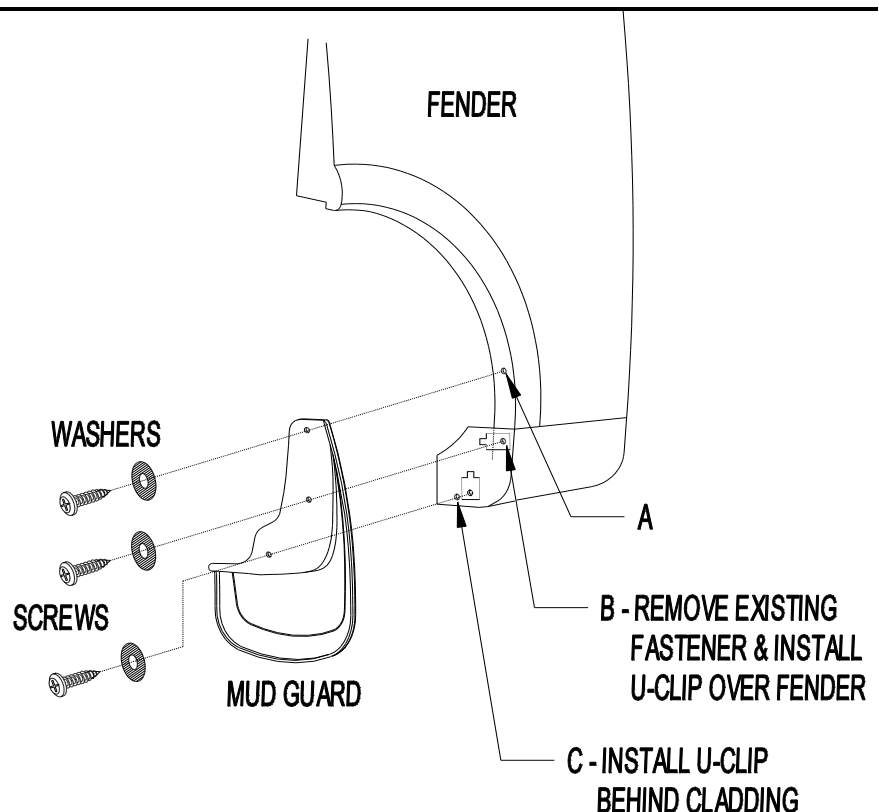

Figure 1
2. Remove existing fastener from location B and install a U-clip over sheet metal and align with existing hole (Figures 1 and 2).
4. Using mud guard as a template, mark, drill 1/8 hole and install #10 screw and washer at location A (Figure 1).